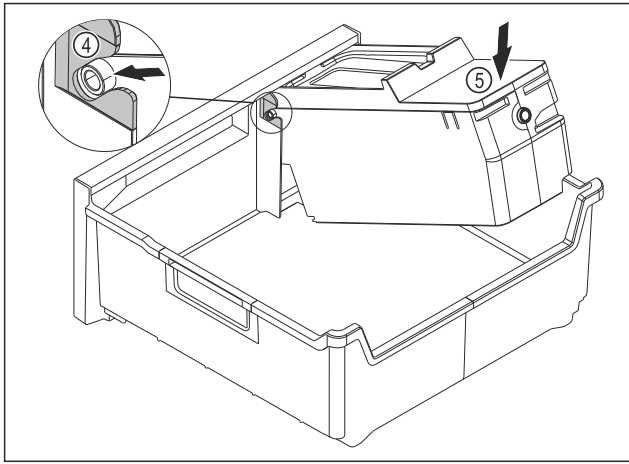

Fig. 78
- ▶ Installing the EasyTwist-Ice body: Push the axes for the EasyTwist-Ice body into the guides Fig. 78 (4).
- ▶ Press the EasyTwist-Ice body Fig. 78 (5) down at the back.